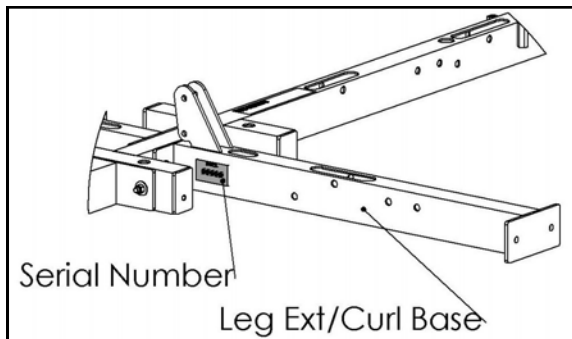

Figure 1A
- **Record** your serial number on the front of this assembly instructions and keep for your records. The serial number can be found on the back side of the Leg Ext/Curl Base, as seen below in Figure 1A.